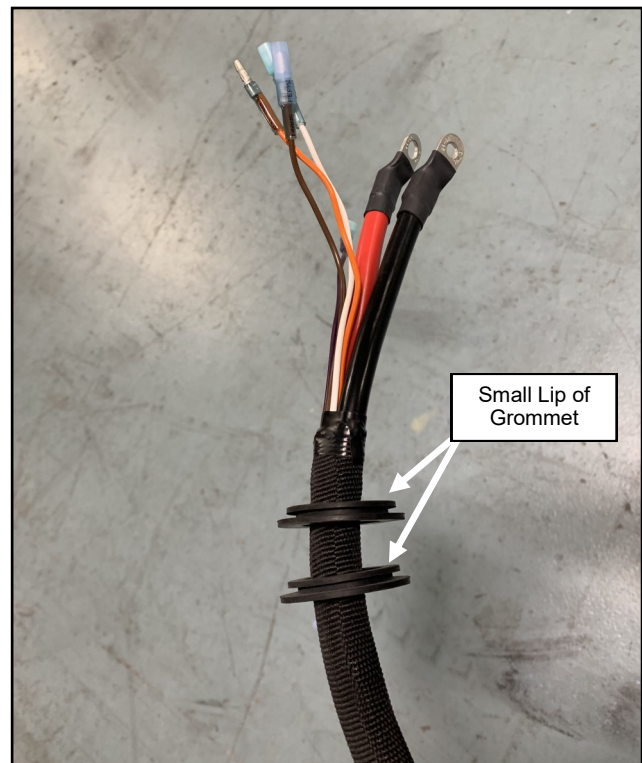

Fig. 2.2 (Install grommets on this end of power harness)
- 2.2 Install two 1-7/8" O.D. Grommets onto the end of the Power Supply Wire Harness per Fig. 2.2. Make sure small lip of both grommets are pointed towards this end.